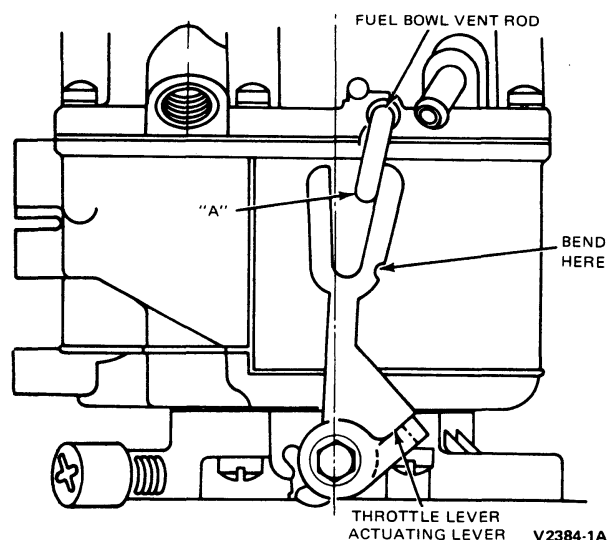

FIG. 9 Mechanical Fuel Bowl Vent Adjustment
1. Open the throttle lever so that the throttle lever actuating lever does not touch the fuel bowl vent rod (Fig. 9).
2. Hold the air horn assembly bottom side up, and remove the float pin and float and lever assembly (Fig. 9). Turn the air horn assembly over and catch the needle pin, spring and needle.